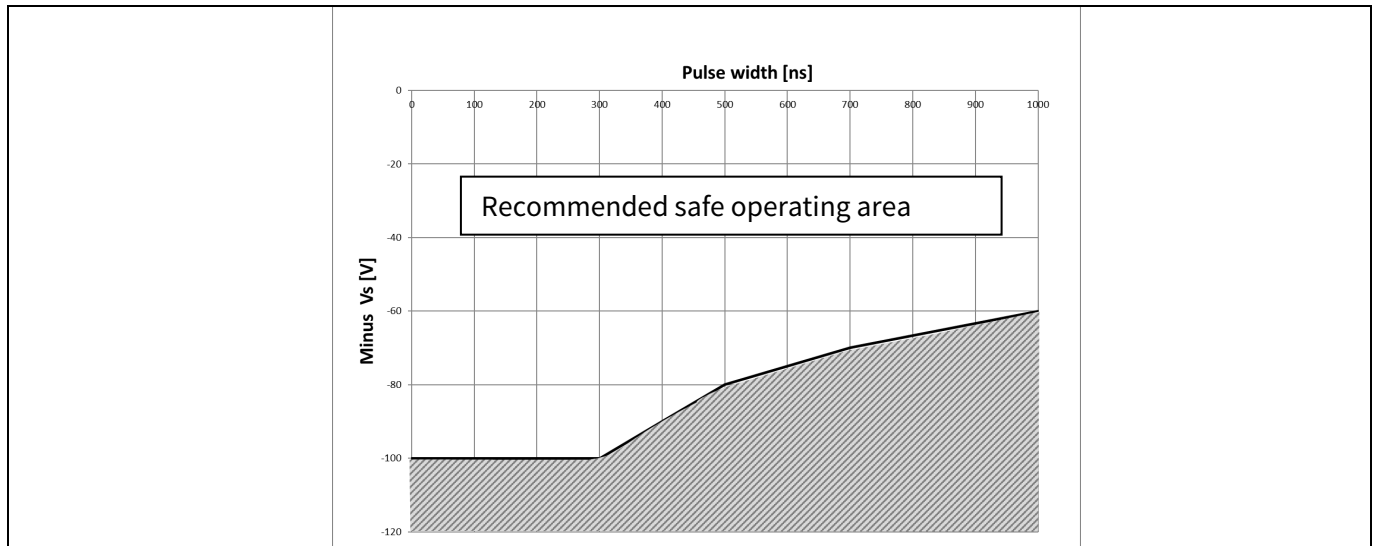

Figure 19 Negative V_S transient SOA for 2ED2108 (4) S06F (J) @ $V_{BS}=15\text{ V}$
Infineon's HVICs have been designed for the robustness required in many of today's demanding applications. An indication of the 2ED2108 (4) S06F (J)'s robustness can be seen in Figure 19, where the 2ED2108 (4) S06F (J)'s Safe Operating Area is shown at $V_{BS}=15\text{ V}$ based on repetitive negative V_S spikes. A negative V_S transient voltage falling in the grey area (outside SOA) may lead to IC permanent damage; viceversa unwanted functional anomalies or permanent damage to the IC do not appear if negative V_S transients fall inside the SOA.